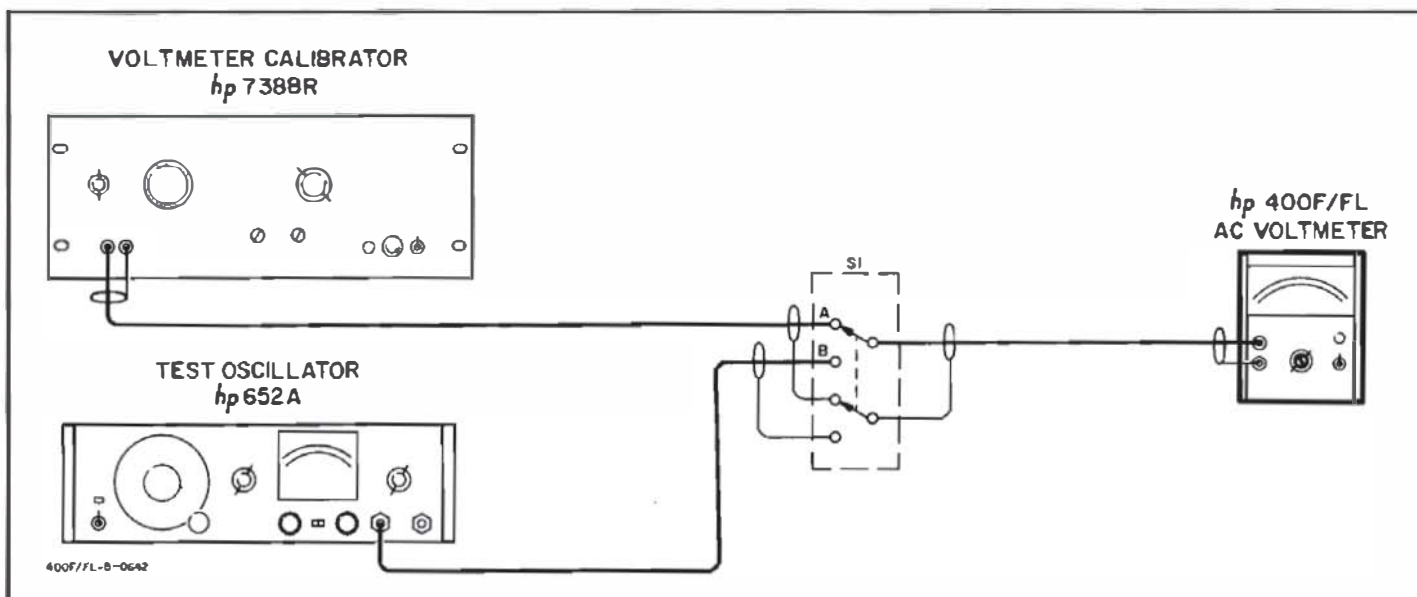
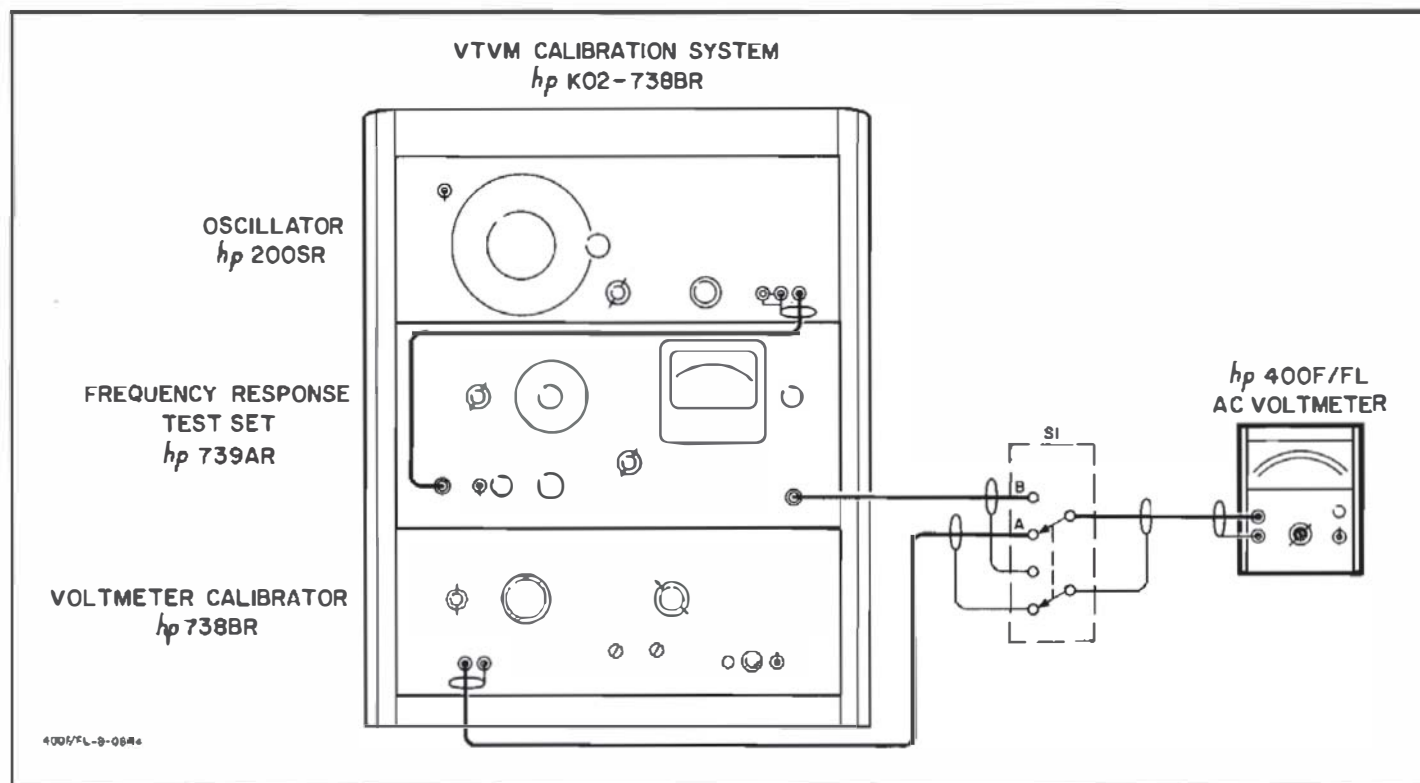

Figure 5-1. Accuracy and Frequency Response Check Setup
Figure 5-2. Alternate Accuracy and Frequency Response Check Setup
5-9. Figure 5-1 shows the test setup for using the -hp- 652A and -hp- 738BR combination. Figure 5-2 shows the test setup for using the K02-738BR VTVM Calibration System.
- a. Connect the voltmeter calibrator and the Test Oscillator to the 400F/FL as shown in Figure 5-1. An external switch (S1) may be used to facilitate switching from one test instrument to the other.
5-15. After verifying the 400F/FL full scale calibration with the accuracy and frequency response tests, check the range tracking of the instrument with the following procedures. Use the test setup shown in Figure 5-1 for the range tracking check.